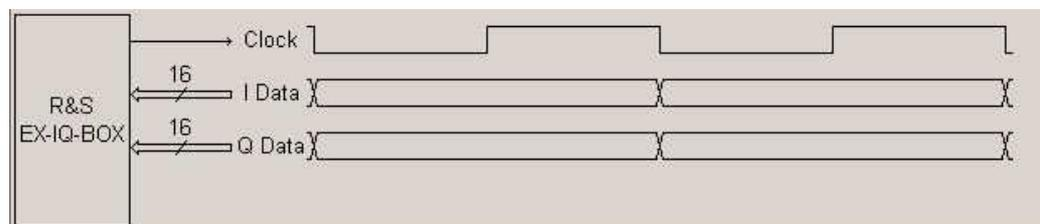

Figure 58: Safe Clock Phase for low data rates
- ▶ Switch the *Clock Phase* to 180 deg. in the *DigiConf* program if you use Single Data Rate (SDR), see Figure 58.